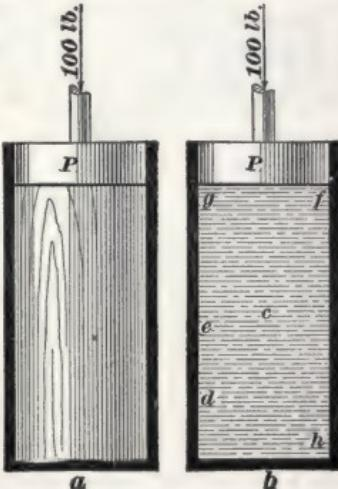

FIG. 1.
**3. Hydrostatic Pressure.**—Fig. 1 represents two cylindrical vessels of exactly the same size. The vessel *a* is fitted with a wooden block of the same size as, and free to move in, the cylinder; the vessel *b* is filled with water, whose depth is the same as the length of the wooden block in *a*. Both vessels are fitted with air-tight pistons *P*, each of whose areas are 10 square inches.
If this pressure were to be obtained by means of a weight placed on each piston (as shown in Fig. 1 at  $a$  and  $b$ ), we would have to put a weight of  $6 \times 6 \times 10 = 360$  pounds on the piston in vessel  $a$ , Fig. 3, and one of  $2 \times 2 \times 10 = 40$  pounds on the piston in vessel  $b$ .